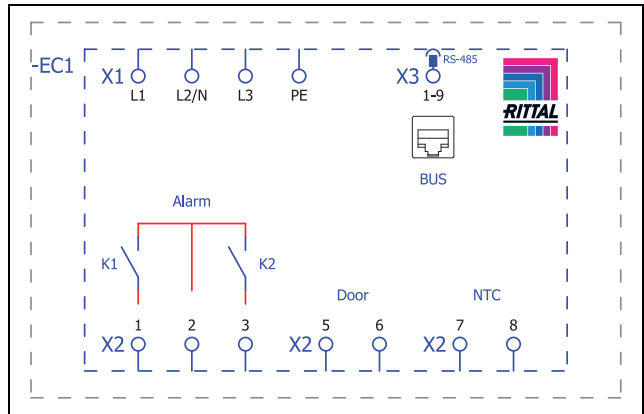
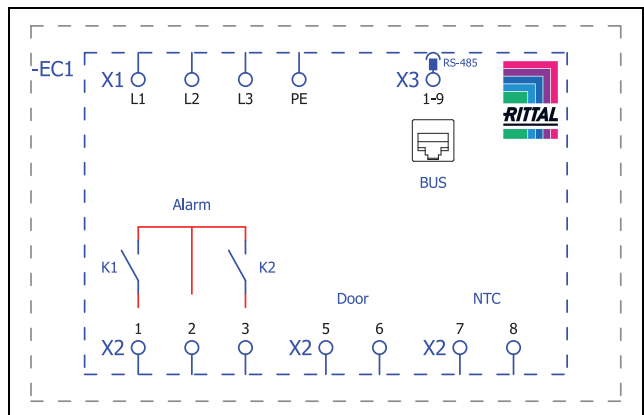

Fig. 37: Circuit diagram SK 3485330, SK 3486330, SK 3487330
Fig. 38: Circuit diagram SK 3488340, SK 3489340
- Remove the mains connector from the dispatch bag and connect to the mains as shown on the connection diagram (fig. 37 or fig. 38).